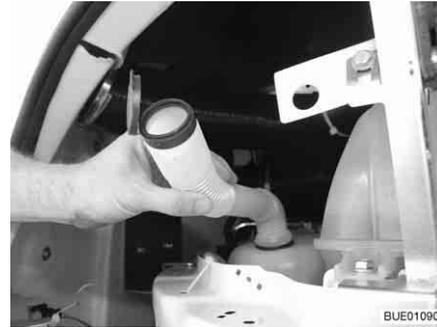

Fig. 46 Filler neck in filling position
- Twist the flexible hose in a way so that the filling hole points upwards (Fig. 46).